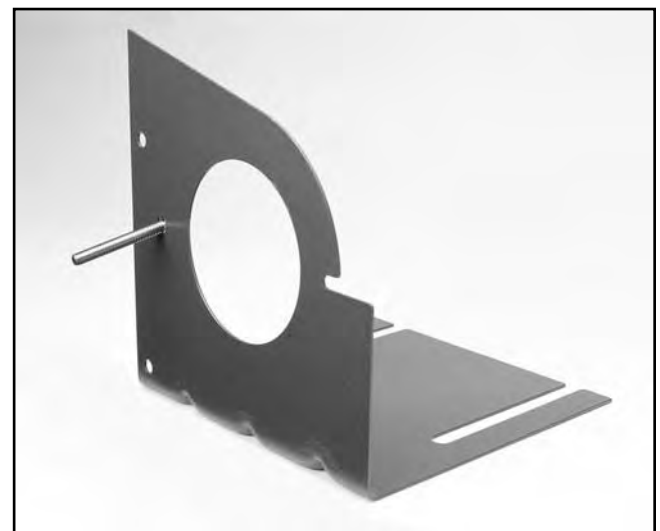

Figure 14. Attaching pulley guard bracket.
2. Insert the 1/4"-20 x 2" hex bolt through the hole in the pulley guard bracket as shown in **Figure 14**.